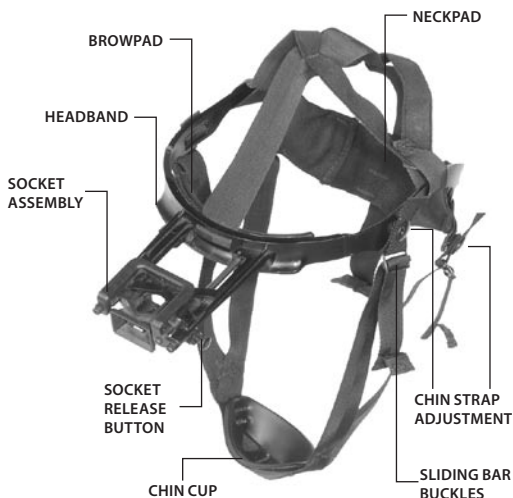

FIGURE 3-6. PVS-7 HEAD MOUNT ADJUSTMENTS
1. Prior to putting on the head mount, loosen the four chin straps so the ends of each strap are approximately two inches from the sliding bar buckles (See Figure 3-6)
To make it easier to align the goggles, eyecups and diopter eyepieces with your eyes, depress the socket-release button (See Figure 3-6) and slide the head mount socket completely forward before attaching the goggles.
7. Readjust the vertical strap assembly (see Figure 3-6) for vertical adjustment of the head mount; the PVS-7 should be properly aligned with your eyes.